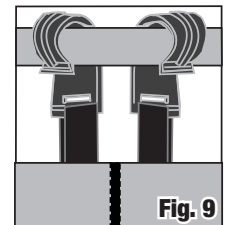

Fig. 9
- Attach top of screen to frame with hooks and loops provided. (Fig. 9 & 10)